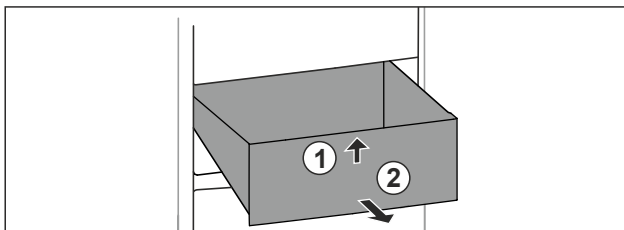

Fig. 97
- Lift up drawer at the front. Fig. 97 (1).
- Remove drawer to the front. Fig. 97 (2).